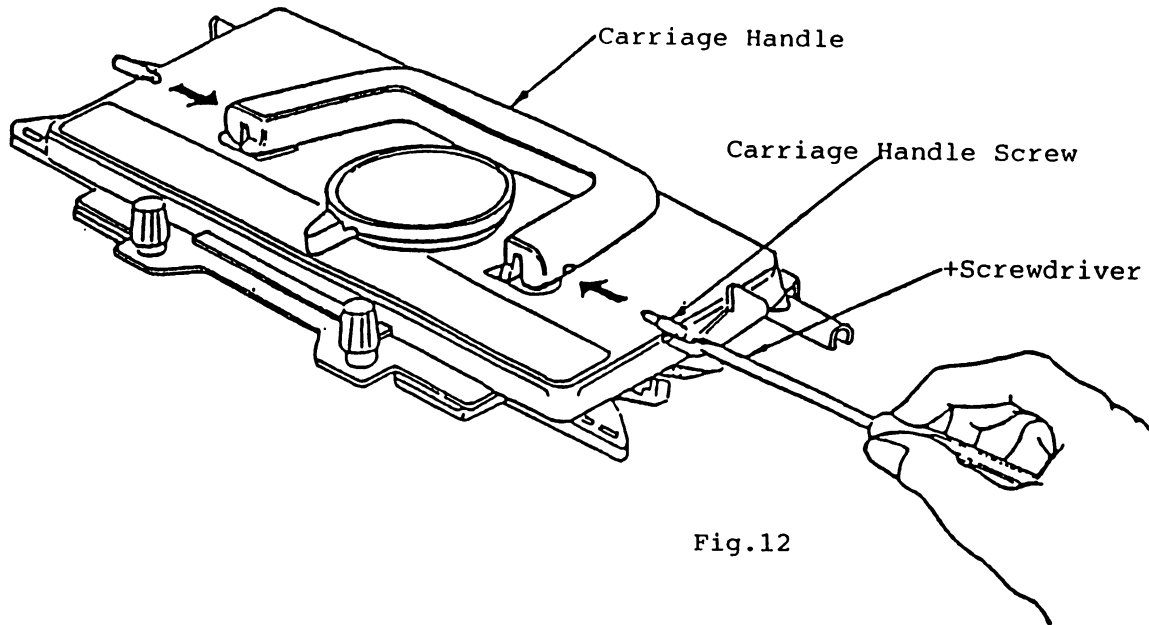

Fig.12
4. With the Carriage Handle down as shown in Fig.12, secure it by fastening the two Screws.